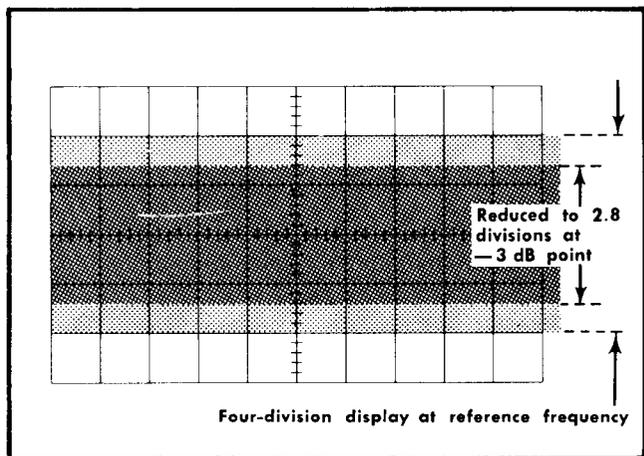

Fig. 5-7. Typical CRT display when checking vertical frequency response (simulated waveform)
- d. Without changing the output amplitude, increase the output frequency of the generator until the display is reduced to 2.8 divisions (-3 dB point; see Fig. 5-7).
c. Without changing the output amplitude, increase the output frequency of the generator until the deflection is reduced to 2.8 divisions (-3 dB point; see Fig. 5-7).
d. Without changing the output amplitude, increase the output frequency of the generator until the deflection is reduced to 2.8 divisions (-3 dB point; see Fig. 5-7).